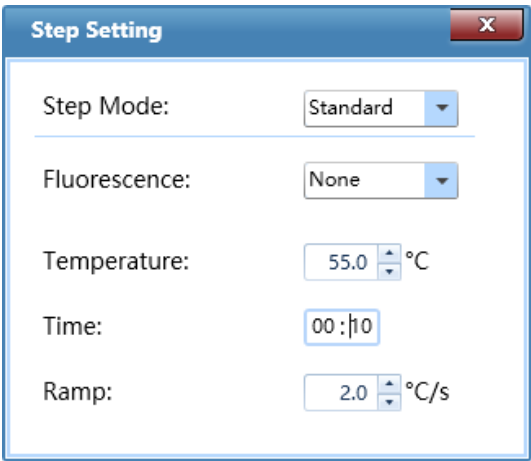

Figure D-5.6a. Step Setting Dialog Box – Standard Step Mode
5. **Step Setting**: double click any step in the step list or in temperature program area to edit the selected step, the application software will pop up the **Step Setting** dialog box for user to edit the selected step, as shown in figure D-5.6a.
- I. **Standard Step Mode:** user can set the **Temperature, Time, Ramp** for the standard step and decide whether to read its **Fluorescence**, as shown in figure D-5.6a.